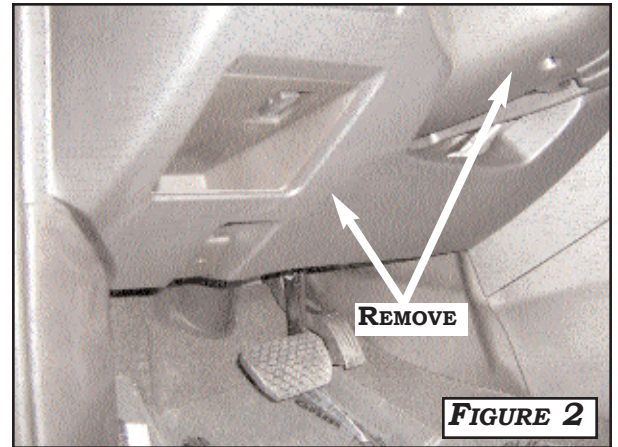

FIGURE 2
2. REMOVE THE STEERING COLUMN SHROUD AND LOWER DASH PANEL. **FIGURE 2**